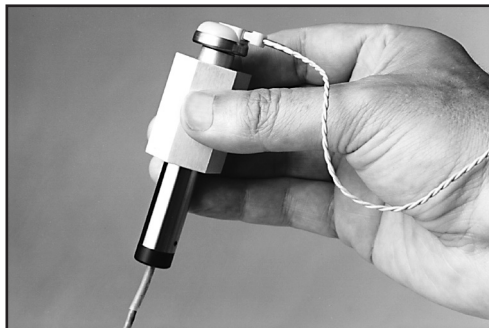

Figure 3.3.5A—Coupler setup
2. Snap the earphone (receiver) of the body aid onto the 1/4" recessed-end of the coupler (Figure 3.3.5A).